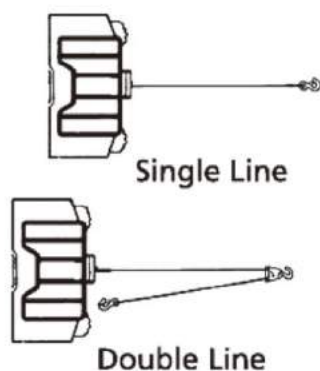

Figure 2
1. Maximum working load capacity is on the wire rope layer closest to the drum. **DO NOT OVERLOAD. DO NOT ATTEMPT PROLONGED PULLS AT HEAVY LOADS.** Overloads can damage the winch and/or the wire rope and create unsafe operating conditions. **FOR LOADS OVER 1/2 RATED CAPACITY, WE RECOMMEND THE USE OF THE OPTIONAL PULLEY BLOCK TO DOUBLE LINE THE WIRE ROPE (Figure2).** This reduces the load on the winch and the strain on the wire rope by approximately 50%. Attach hook to load bearing part. **The vehicle engine should be running during winch operation.** If considerable winching is performed with the engine off, the battery may be too weak to restart the engine.